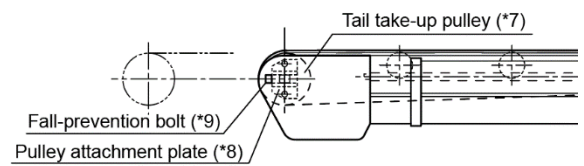

fig.3: Take-up pulley and snub pulley of center take-up unit
- Snub pulleys of center take-up unit (See fig. 3.)
- Take-up pulley of center take-up unit (See fig. 3.)